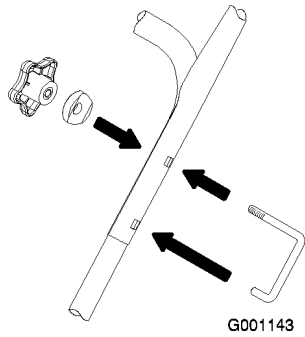

Figure 4
- Loosely install the handle bolts, curved washers, and knobs (Figure 4).